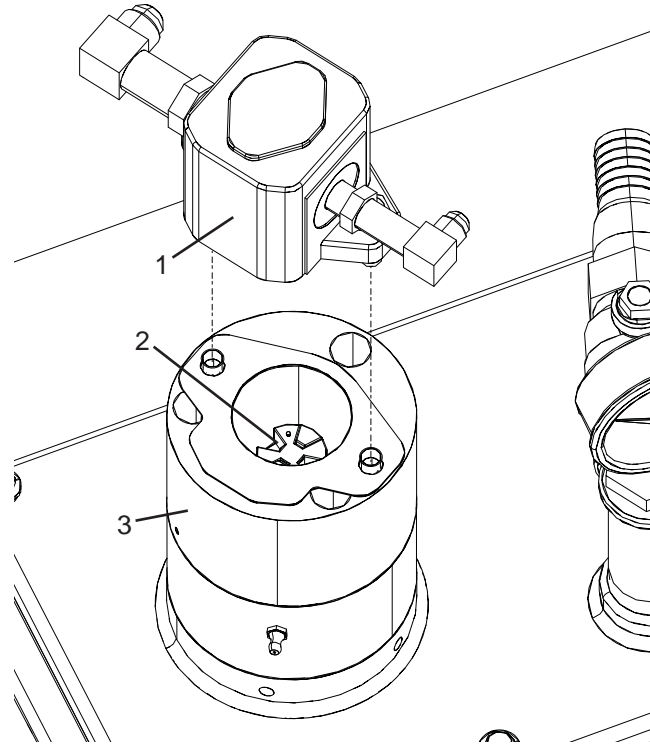

Figure 1
1. Remove the hydraulic motor (Figure 1, Item 1) from the upper bearing carrier (Figure 1, Item 3).
2. Rotate the pump shaft (Figure 1, Item 2) by hand in both directions.